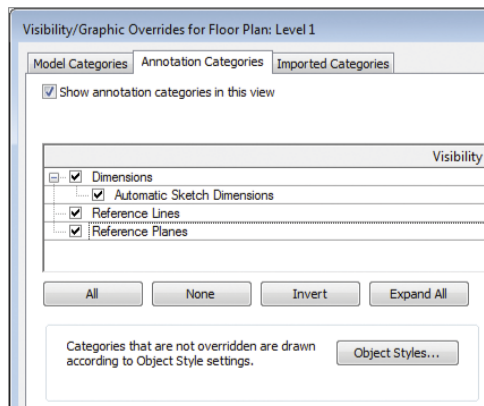

FIGURE 6.29 Adjusting the Visibility/Graphic Overrides properties of the view
3. There are some parameters that you want to maintain in this family. To make them visible, go to the Visibility/Graphic Overrides dialog box (type `VV` on your keyboard), and select the Annotation Categories tab. Select all the options, as shown in Figure 6.29, and click OK to close the dialog box.